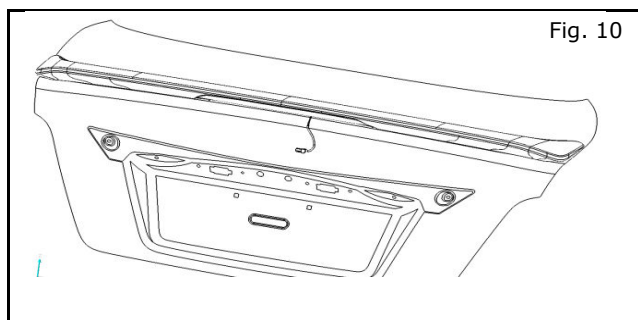

Fig. 10
- c) Remove the stud covers and carefully place the spoiler on the deck lid. Confirm the gaps are equal on both sides of the spoiler and check for proper hole alignment. Remove the spoiler. (Fig. 10)